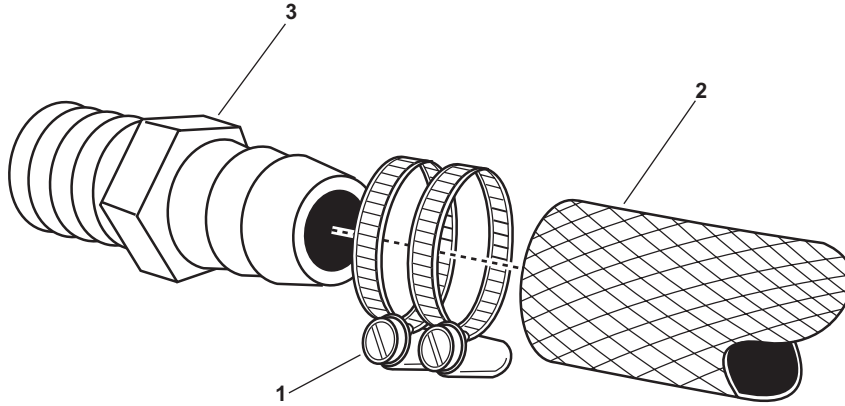

Figure 1. Low Pressure Fitting, Hose, and Clamp
4. Loosen the hose clamps (figure 1, item 1) at both ends of the hose (figure 1, item 2) and remove the hose from the fittings (figure 1, item 3).
2. Place the hose clamps (figure 1, item 1) over the hose (figure 1, item 2).
3. Place the ends of the hose (figure 1, item 2) over the fittings (figure 1, item 3).
4. Tighten the hose clamps (figure 1, item 1).
4. Loosen the hose clamps (figure 1, item 1), and remove the hose (figure 1, item 2) from the fitting (figure 1, item 3).
5. Remove the damaged fitting (figure 1, item 3).
1. Place antiseizing tape on the male threads of the replacement fitting (figure 1, item 3) and install the replacement fitting.
2. Place the end of the hose (figure 1, item 2) on the fitting (figure 1, item 3).
3. Tighten the hose clamps (figure 1, item 1).